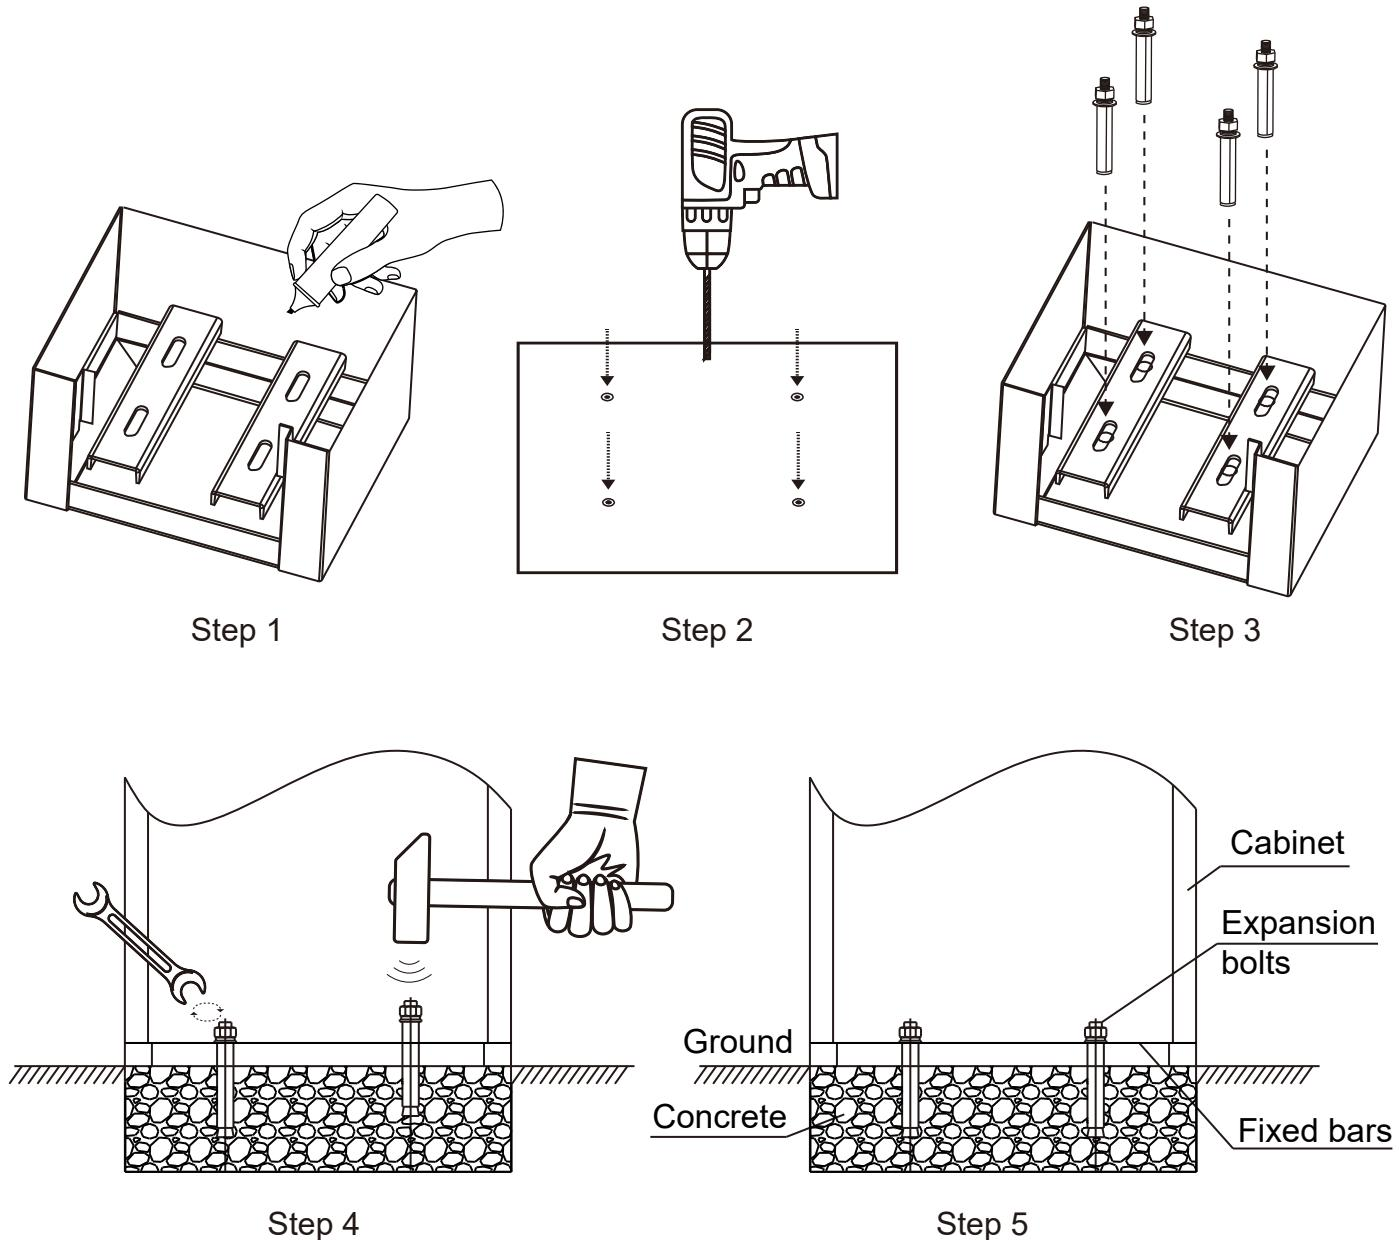

Figure 2
(2) Put the boom barrier on the ground, usually use the pen to mark out the position of 4 pieces expansion bolts. Drill holes with electric drill based on the marked position of 4 pieces expansion bolts. After drilling holes, put the 4 pieces bolts into the holes, or strike the bolts into holes with hammer carefully. Then fasten the bolts well. Please refer to the Figure 2.(Step 1-Step 5)